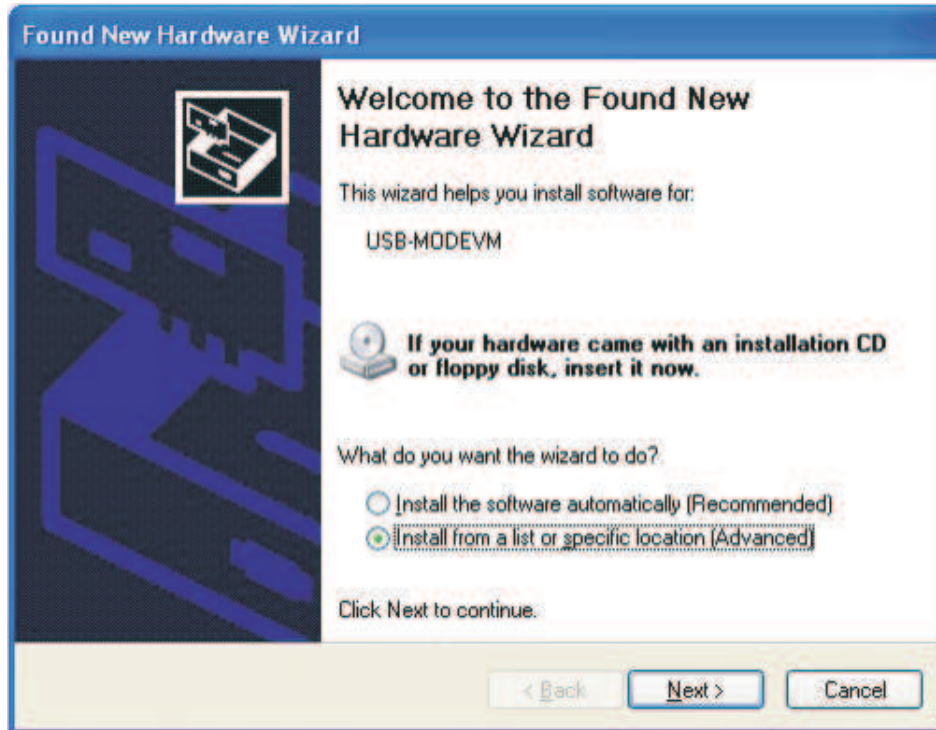

Figure 2. Found New Hardware Wizard Advisory Screen
10. If this is the first time a TPA2026D2EVM is plugged in after installing the software, follow the Windows dialog (Figure 2), questions, and selections: